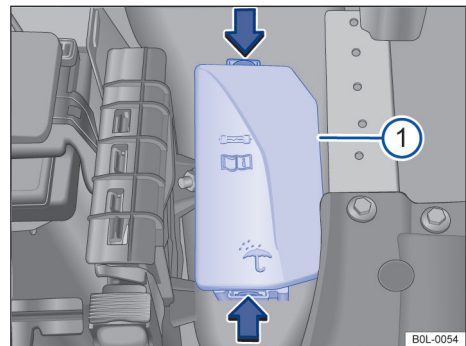

Fig. 125 In the engine compartment: fuse box cover **①**.
- Press the button in the direction of the arrow to open the cover → **Fig. 125** **①** of the fuse box. **▶**